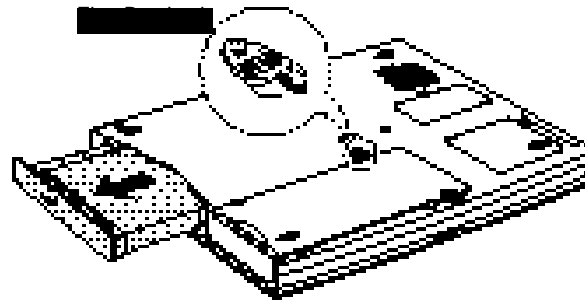

Figure 11. Removing a Device from the Flex-Bay
3. Pull up on the Flex-Bay latch and pull the device from the bay (Figure 11).